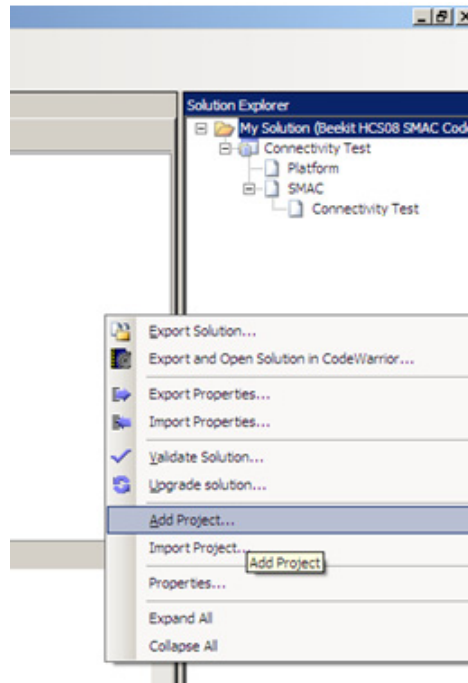

Figure 1-5. Adding a New Project to an Existing Solution
5. If the demonstration application requires it, add other projects to the current solution as shown in Figure 1-5.